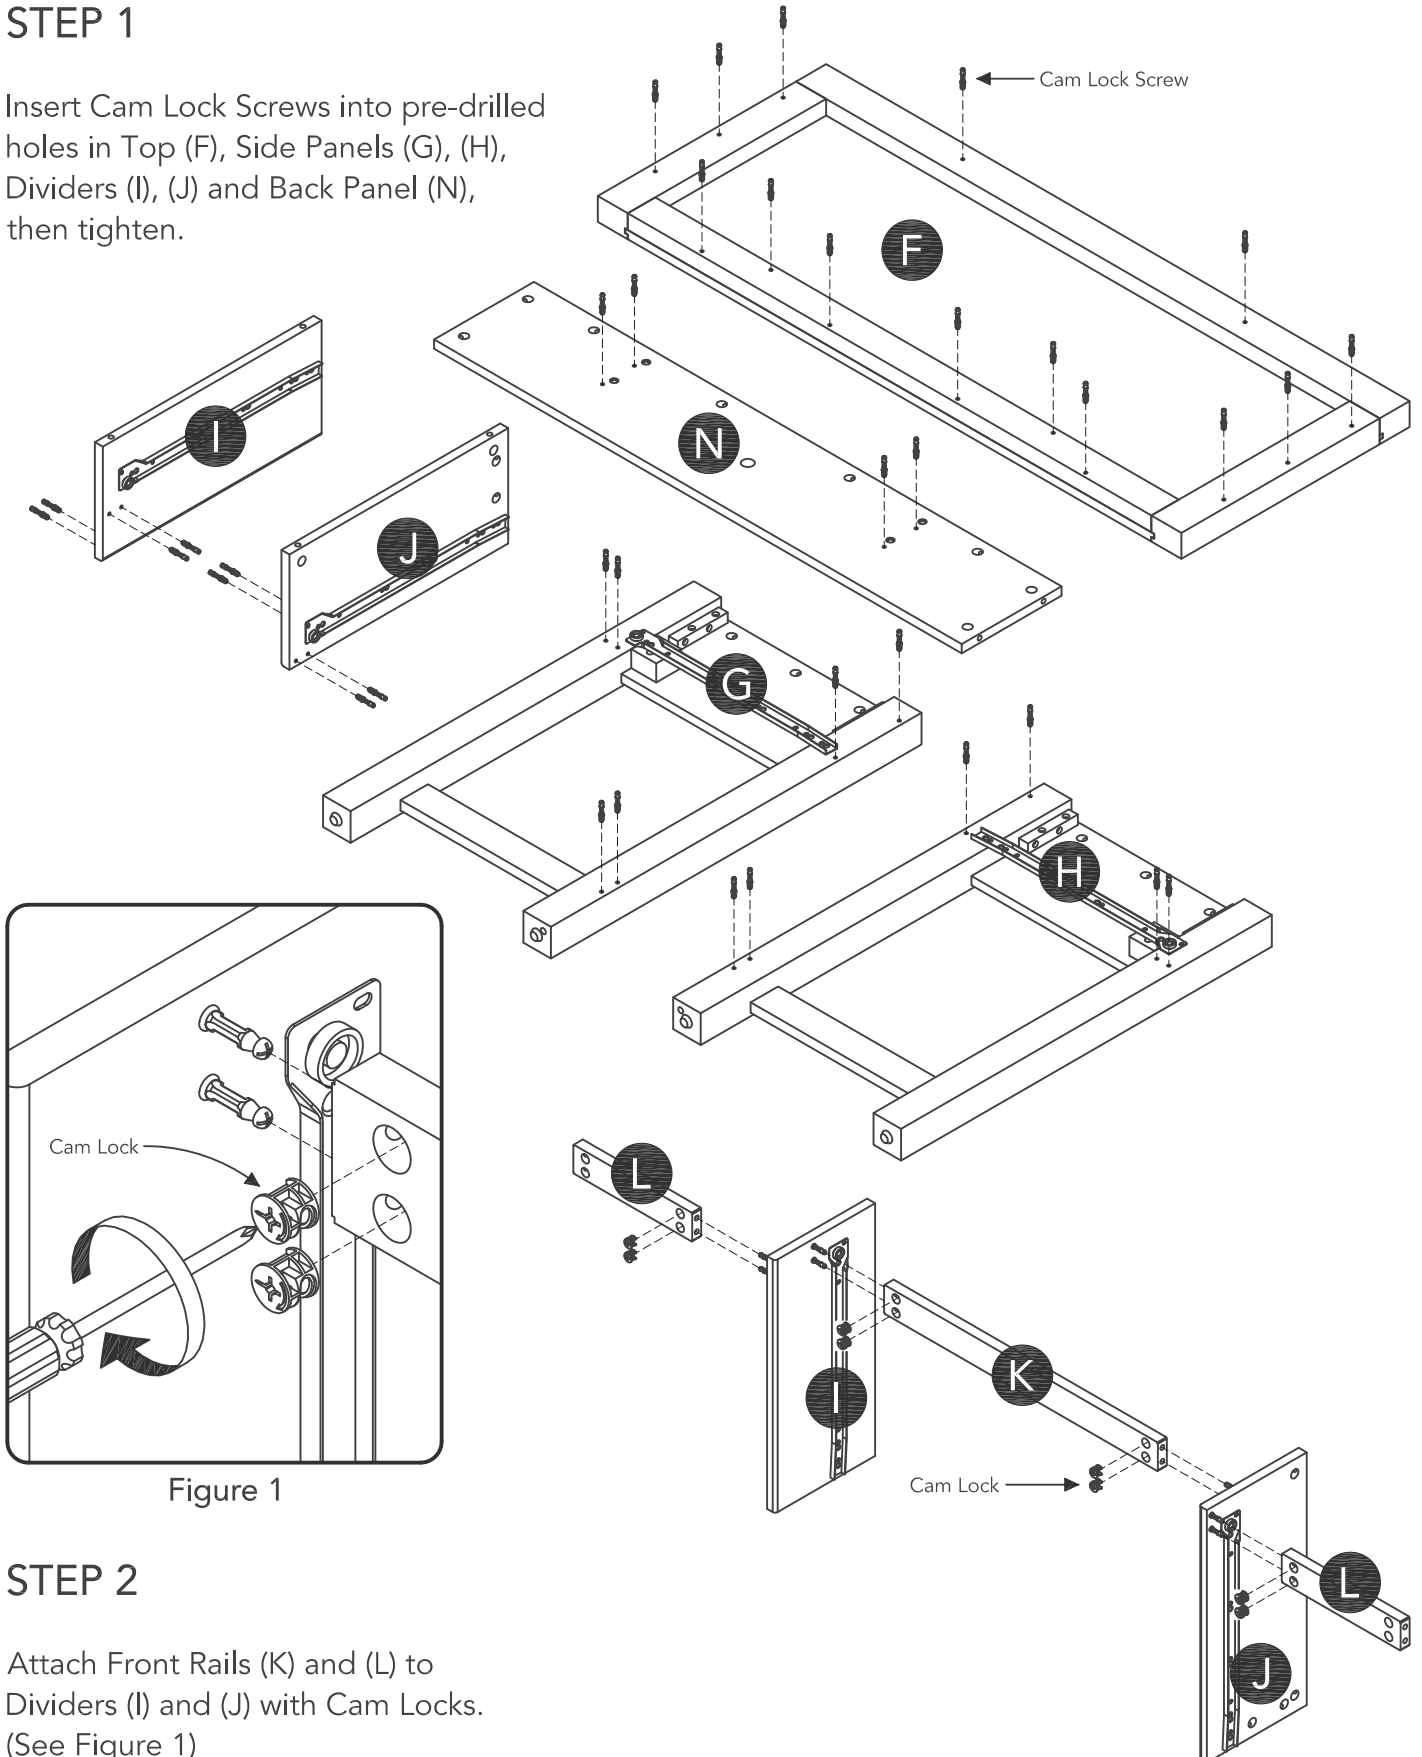

Figure 1
Attach Front Rails (K) and (L) to Dividers (I) and (J) with Cam Locks. (See Figure 1)